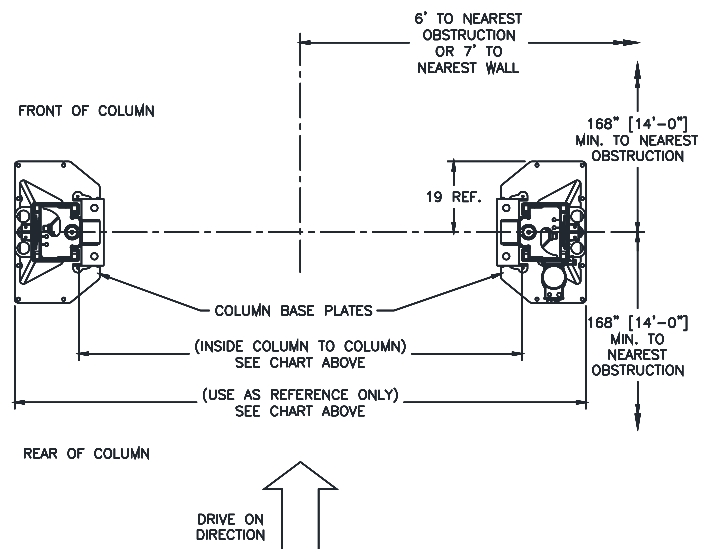

Fig. 1b - Service Bay Layout
- Layout the service bay according to the architect's plans or owners instructions (**see Fig. 1b**). **Failure to install in this orientation can result in personal and property damage.** Be certain that the proper conditions exist, see page 3.